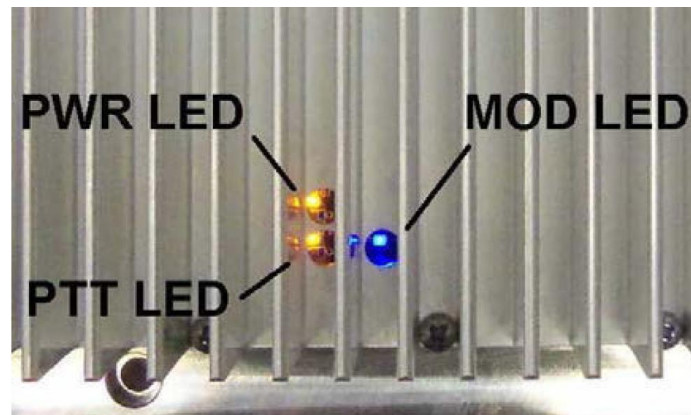

Figure 9. Transmitter Controls and Indicators
A view of the front and transmitter indicators is given in Figure 9. A functional description of the power switch, controls, and indicators is provided in Table 1.
3. Verify that the amber POWER ON LED is ON as shown in Figure 9.